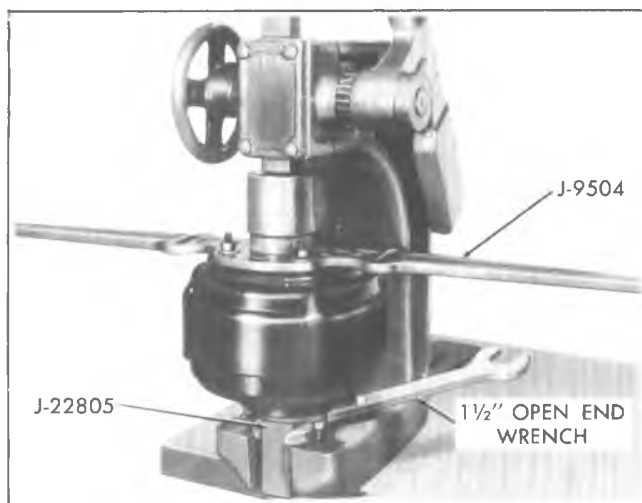

Fig. 5-4B--Holding and Separating Housings Using J-22805 and J-9504 in Arbor Press
12. Place power unit with Holding Fixture J-22805 in an arbor press with rear housing up and secure to plate of press by a suitable means of holding Tool J-22805 (fig. 5-4B). By using a 1-1/2" open end wrench on Tool J-22805 and allowing unit to turn against back of arbor press, press will hold unit from turning.
13. Place Spanner Wrench J-9504 over studs on rear shell (fig. 5-4B). Use three washers and nuts to attach wrench to housing. Use a suitable piece of pipe of approximately two inches I.D. and approximately three inches in length. Place over plastic diaphragm plate hub. Place a piece of flat stock steel over end of pipe and press rear housing down far enough to relieve tension of diaphragm rubber lip and spring.
12. Secure front housing and Holding Fixture J-22805 on arbor press plate by a suitable means (fig. 5-4B).